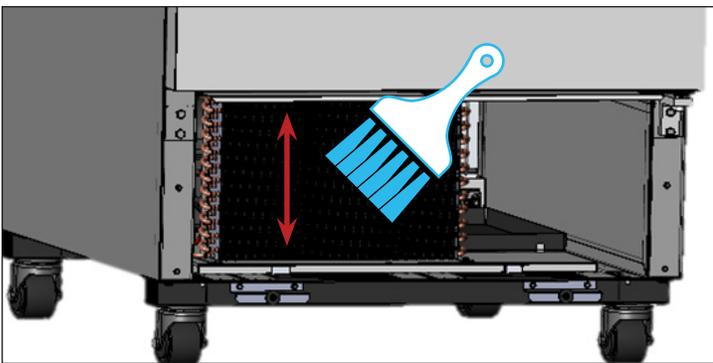

Fig. 3. Never brush across the coil fins.
3. With a stiff bristle brush, carefully clean accumulated dirt from the front condenser coil fins. See fig. 3.